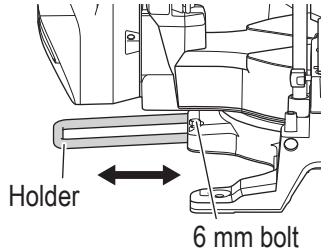

Fig. 11
4. Base holder adjustment (**Fig. 11**)